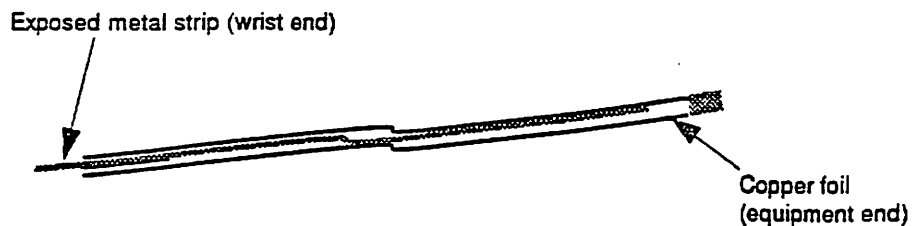

Figure 1 ESD Wrist Strap
Step 1: Remove the wrist strap from its envelope. As shown in Figure 1, one end terminates with a patch of copper foil (equipment end), and the other end has an area with the black metal strip exposed (wrist end).